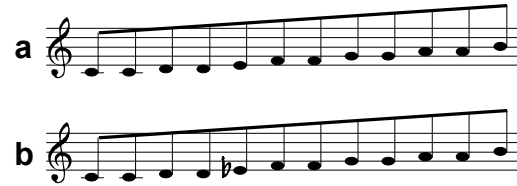

fig. 3: Major scale (a) and minor scale (b)
In the "**Scale**" position all voltages corresponding to the scale selected with switch ① (major or minor) are passed to the control voltage output (see fig. 3).